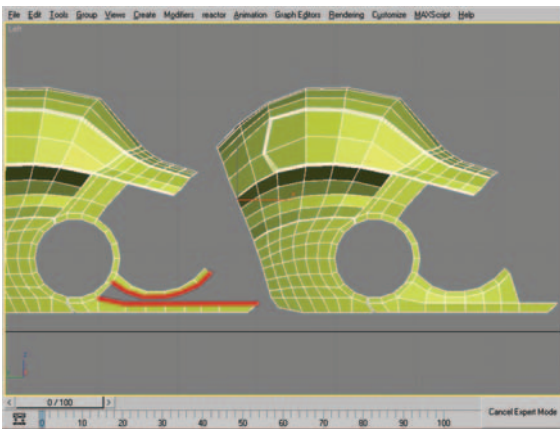

Figure 8.55 Edges to be bridged (left) and resulting mesh after performing Bridge (right).
56. At the Edge subobject level, select the edges shown in Figure 8.55 (left) and use Bridge to create new polygons between them (Figure 8.55, right). *Note: You may need to do them in pairs as opposed to all at once to get desirable results.*